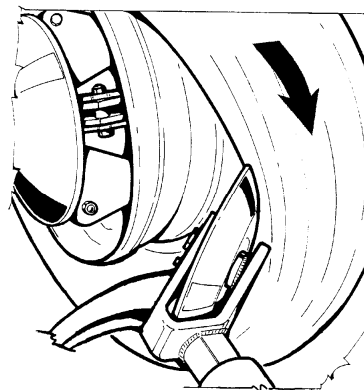

Fig.40
6. When breaking the inner bead be sure not to damage the valve stem (Fig.40).